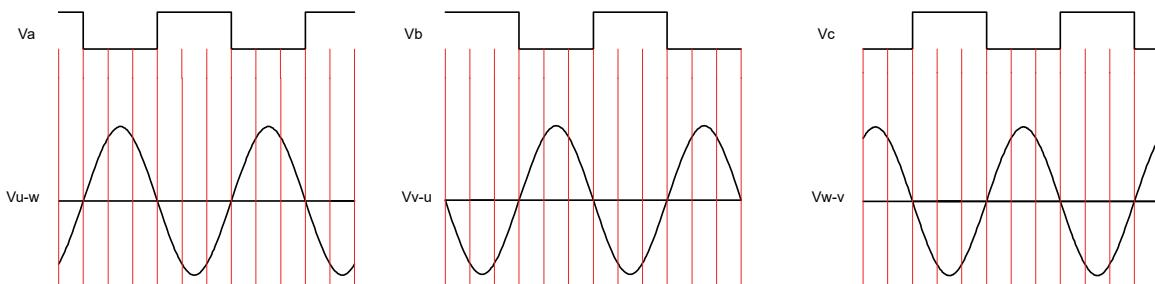
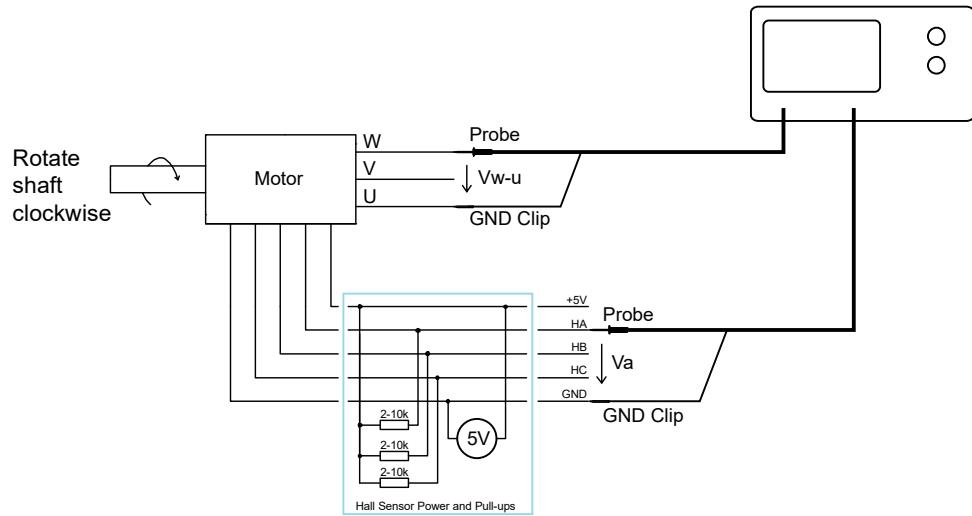

FIGURE 8-4. Relation between hall sensor and UVW windings
FIGURE 8-6. Use an oscilloscope and the circuit in figure to place the probes and generate these signals
V. See figure 8-4. The sine wave voltage will be inverted when turning the motor in the opposite direction.
The most precise evaluation of the Hall Sensors alignment is done using an oscilloscope and the circuit described in figure 8.6. Compare the shape of the Hall Sensor signal to this of the voltage that is generated on the motor phases as the shaft is rotated by an external force. Verify that the zero-crossing of the phase voltages is occurring at exactly the same time as the Hall Sensor transitions, as shown in figure 8-4.